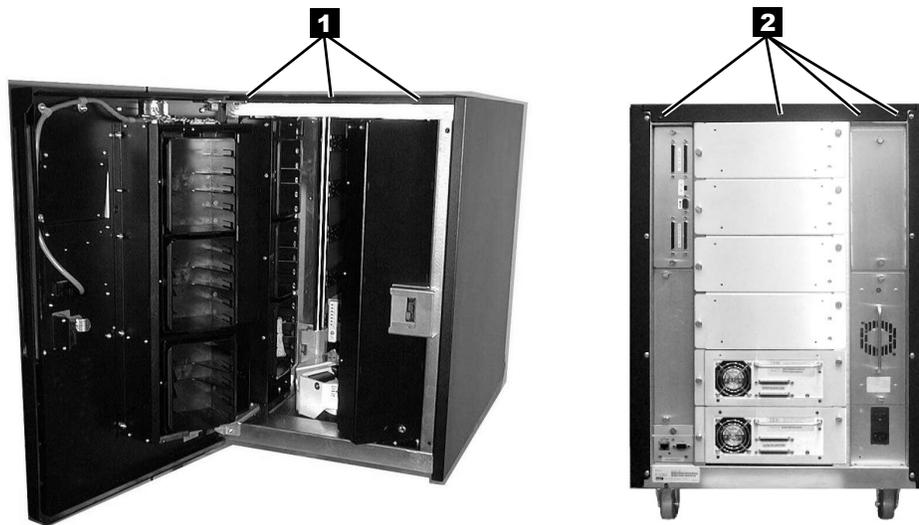

Figure 8-12. Top Cover Removal
3. Remove the three screws **1** in front and four screws **2** in back, see Figure 8-12.